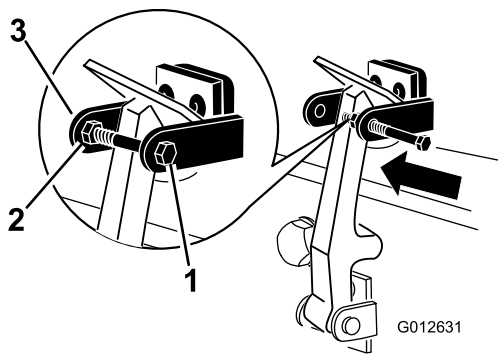

Figure 8
7. Screw the bolt into the other arm of hood lock bracket to lock the latch in position (Figure 8). Tighten bolt securely but do not tighten nut.